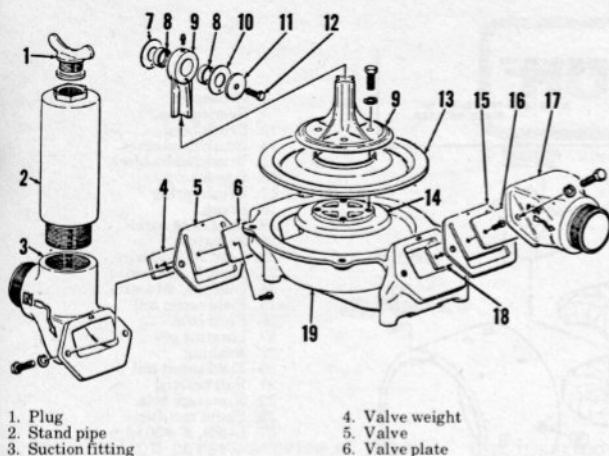

Fig. HL54—Exploded view of diaphragm type pump assembly. Pump upper body is (30—Fig. HL53). Refer to Fig. HL55 for pump assembly information.
Fig. HL53—Exploded view of drive gear case for diaphragm type pump; refer to Fig. HL54 for exploded view of the pump assembly. Pinion machined on rear end of engine crankshaft engages the intermediate gear (16); pinion on shaft (18) drives crank gear (12). Guard A-51135 is available to cover pump rod and crank.